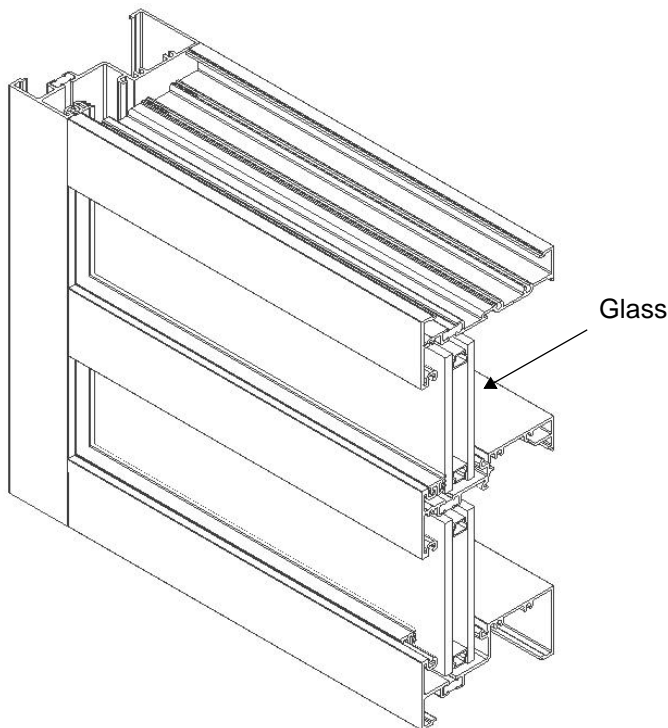

Figure 12: Install the glass with setting blocks.
- Lower the glass onto the setting blocks as shown in Figure 12.